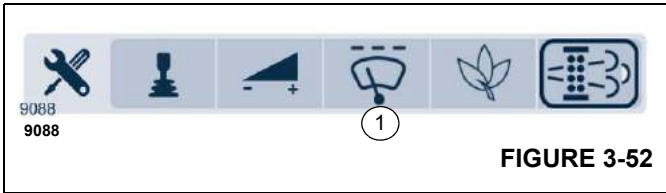

FIGURE 3-52
Select and confirm the symbol (1), (Figure 3-52).